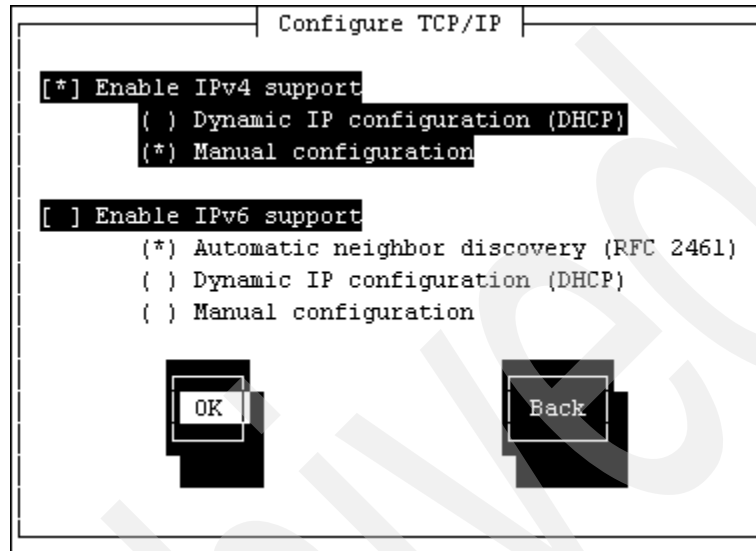

Figure 6-10 Configure TCP/IP
6. To configure DHCP, select either IPv4 or IPv6 support and then Dynamic IP configuration (DHCP) from the TCP/IP window. Then select **OK**. See Figure 6-10 on page 293 for more details and skip the next two steps.
As an example, if you wish to configure static IP parameters with IPv4 support, configure the TCP/IP parameters and **Enable IPv4** support, select **Manual configuration** and disable **Enable IPv6 support** as shown in Figure 6-10, and configure the device as shown in Figure 6-11 on page 294.